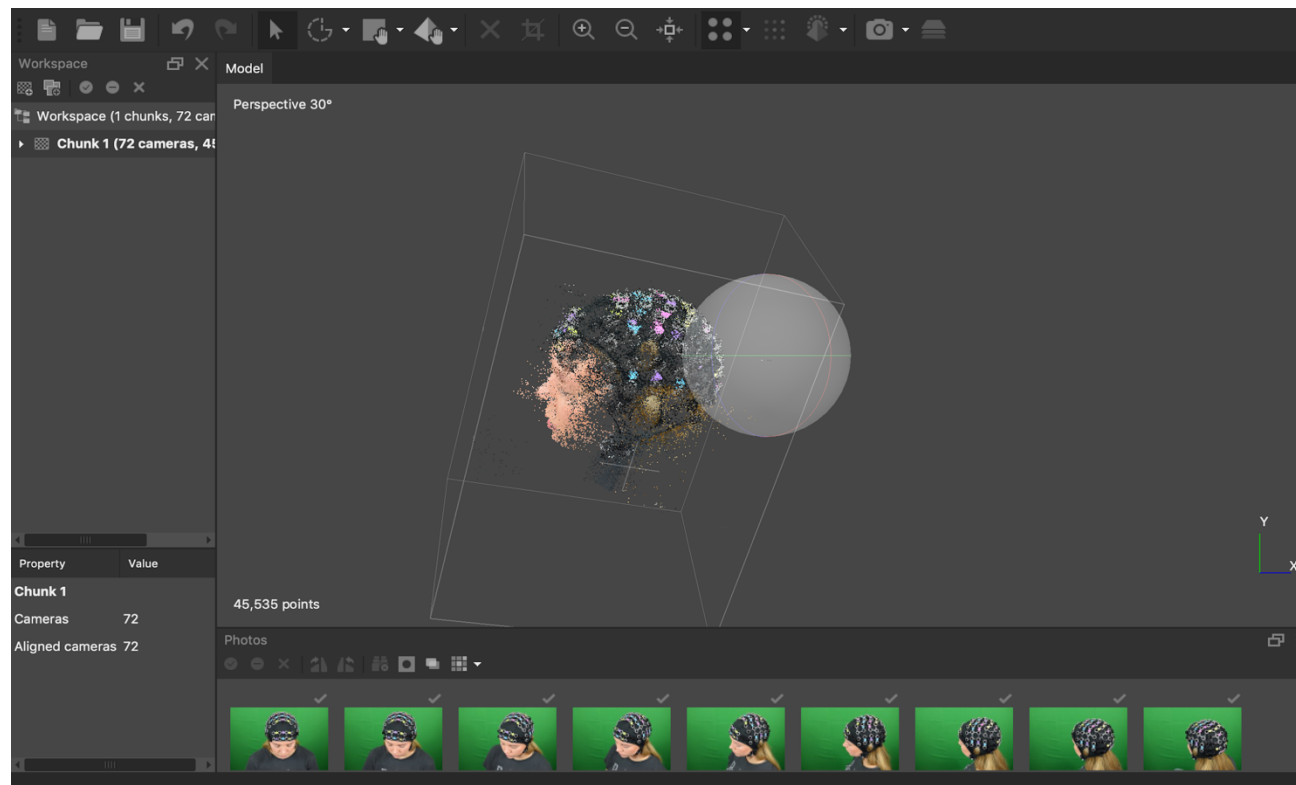

Figure 16. Results after aligning the photos in Metashape
4. The result might look similar to Figure 16. Click the camera icon at the top bar to turn off the cameras (or turn on to see if there is sufficient coverage from all possible angles). It might happen that some cameras fail to align, meaning not all photos were able to be matched with the